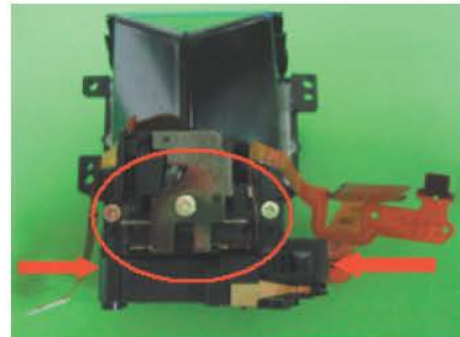

Fig. 108
- (1) SI positioning is adjusted, so be careful not to touch the area circled in Fig. 108, and determine the position so as not to pinch the FPC.